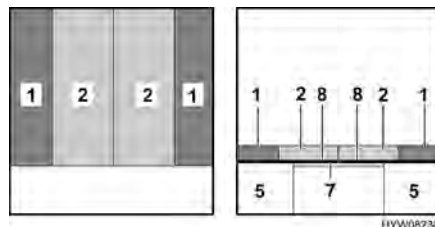

Fig. 47 After conversion
- Place the seat cushions (Fig. 47,2) in the centre.
- Insert the back cushions (Fig. 47,1) between the seat cushions (Fig. 47,2) and the exterior wall.